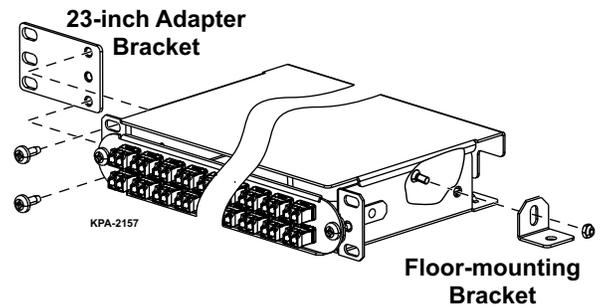

Figure 6 — Optional Mounting Brackets
NOTE: If floor-mounting the housing, install the floor-mounting brackets as shown in Figure 6 before replacing the cover.
Step 2: If installing into a 23-inch rack, attach a mounting adapter bracket to each mounting ear of the housing (Figure 6). If installing into a subfloor, attach the floor mounting brackets to the housing as shown, then replace the cover. Hardware for mounting the bracket to the floor is not provided.